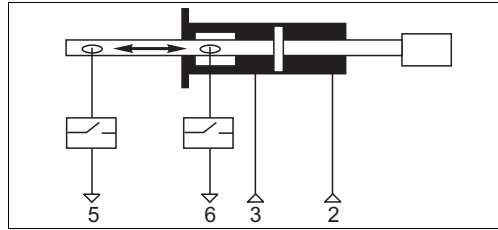

Fig. 11: Pneumatic terminal block sticker
1. Please, refer to the sticker on the pneumatic terminal block to connect the compressed air hoses (Fig. 11).